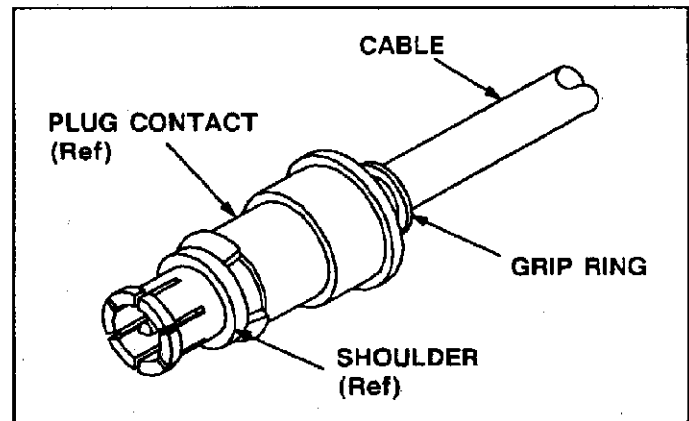

Fig. 3
- Slide contact over cable, grip ring end first. See Figure 3.